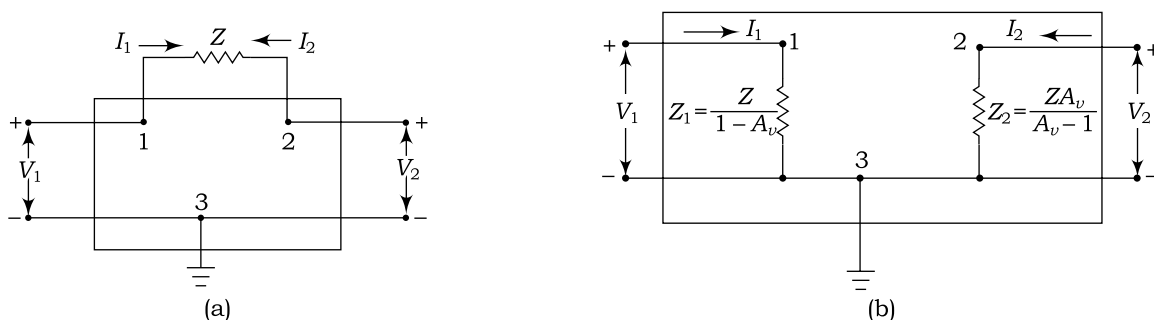

Fig. 3.117 (a) Miller's theorem (b) Miller's theorem: equivalent circuit of Fig. 3.117(a)
When an impedance Z is connected between the input (1) and output (2) terminals of a network which provides a voltage gain A_v as shown in Fig. 3.117(a), an equivalent circuit which gives the same effect can be drawn by removing Z and connecting an impedance $Z_1 = \frac{Z}{1 - A_v}$ across input terminals and another impedance $Z_2 = \frac{Z}{1 - \frac{1}{A_v}} = \frac{ZA_v}{A_v - 1}$ across output terminals as shown in Fig. 3.117(b). This theorem is called *Miller's theorem*.
As per Fig. 3.117(b), the current I_1 is $I_1 = \frac{V_1}{Z_1}$
As per Fig. 3.117(b), the current I_2 is $I_2 = \frac{V_2}{Z_2}$